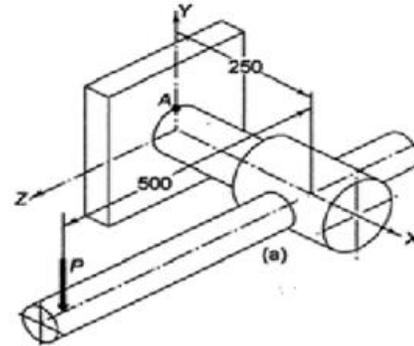

Figure.2b
- b) The shaft of an overhang crank subjected to a force of  $P$  of 1 kN is shown in the Figure.2b . The shaft is made of plain carbon steel 45C8 and the tensile yield strength is  $380 \text{ N/mm}^2$ . The factor of safety is 2. Determine the diameter of the shaft using the maximum shear stress theory. 8 M